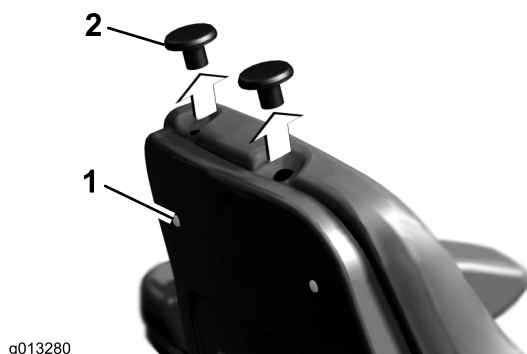

Figure 1
2. Loosen the two screws securing the seat cushion to the seat back (Figure 1).
1. Screws (2)
2. Plugs (2)
3. Remove the two plugs from the holes in the top of the seat cushion (Figure 1). If the plugs cannot be easily removed from the top of the seat, loosen the two seat back screws some more.